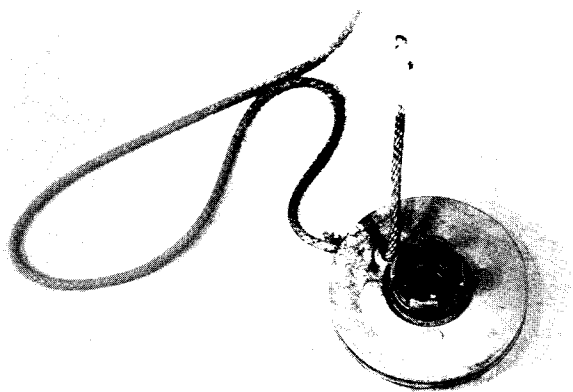

Fig. 76 — Rope Threaded through Hole in Pulley
4. Tie knot in one end of rope and thread other end into hole in pulley, Fig. 76.